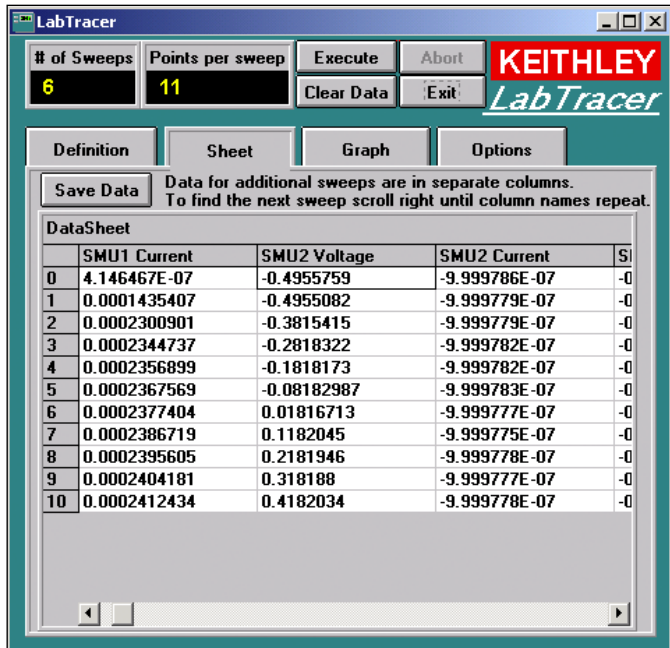
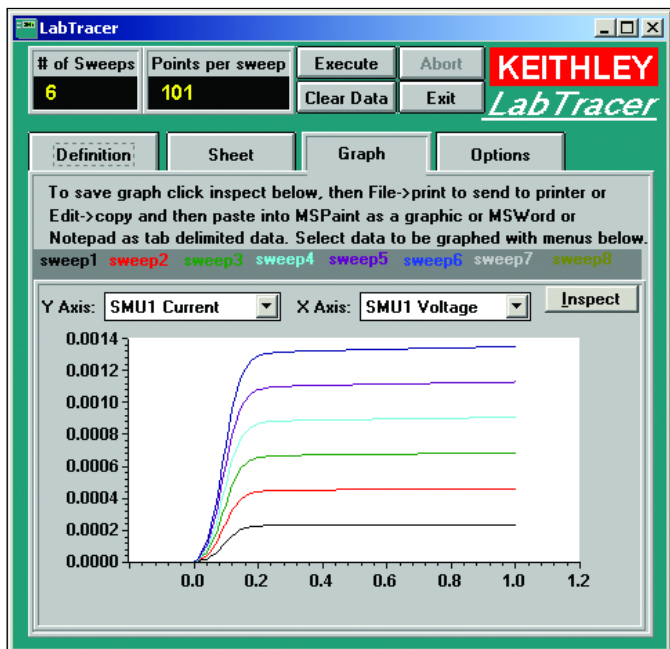

Figure 10. Sheet
Figure 11. Graph
The LabTracer software supports making many standard tests with SourceMeter instruments. The following example describes a test that uses two Model 2400s to create a transistor curve family. The variables settings shown in **Figures 5-9** will return data similar to that shown in **Figures 10 and 11** when connected to a standard BJT device like the PNP 3906 used for this example.
8. Start the test using the **Execute** button. To observe the results, click either the **Data** sheet tab (Figure 10) to see the data in a table or the **Graph** sheet tab (Figure 11) to see it in graphical form.